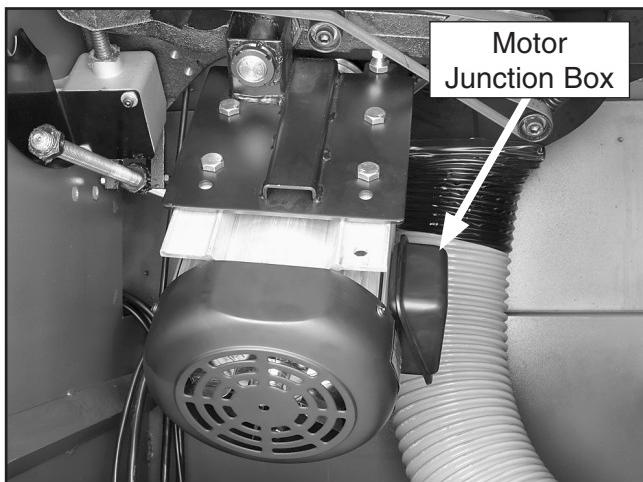

Figure 8. Motor location.
3. Remove the motor junction box cover (see **Figure 8**).